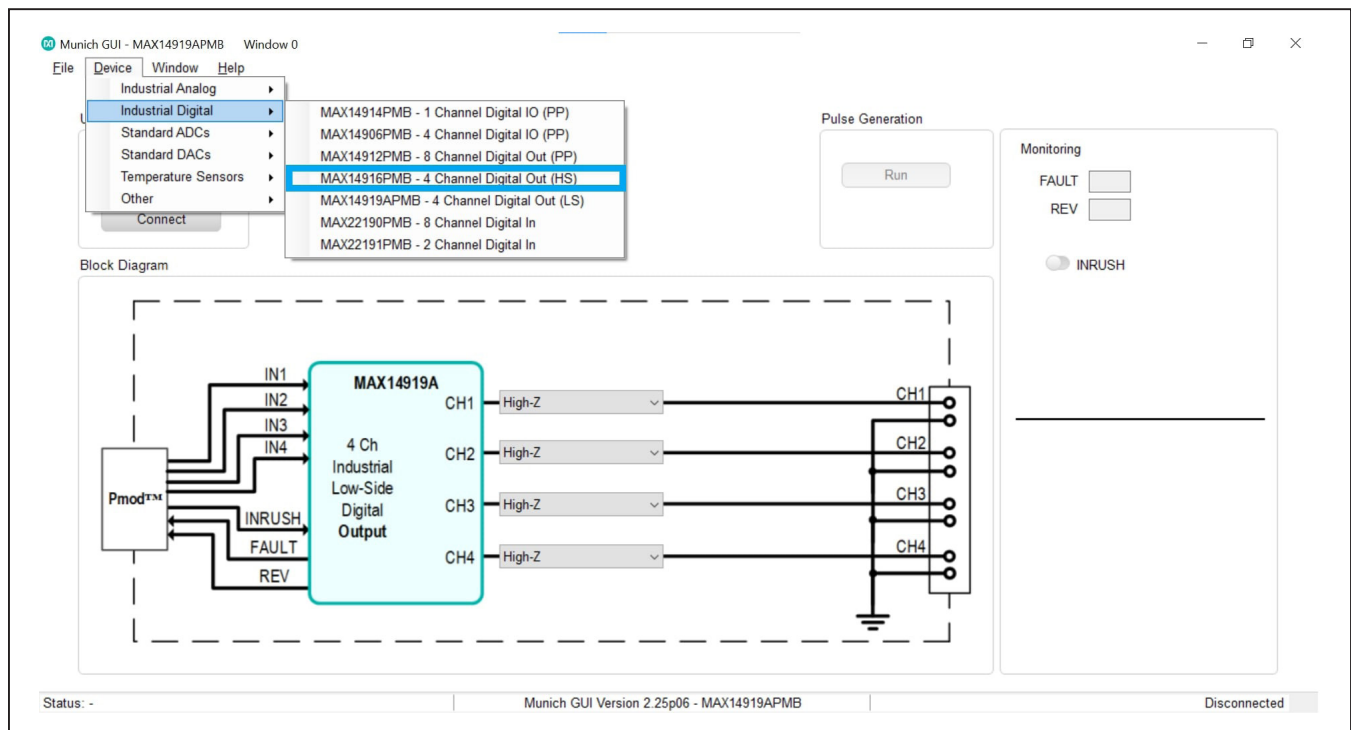

Figure 3. MAX14916PMB# Software (Munich GUI Device Menu)
- 8) Once the hardware is ready to use, launch the Munich GUI software. The status bar in the GUI should display **Disconnected** in the bottom right corner. To configure the MAX14916PMB#, go to the **Device** tab, select **Industrial Digital**, then select the **MAX14916PMB**. (See Figure 3)
The **Device** menu has options to select peripheral modules (see Figure 3). In this case, select